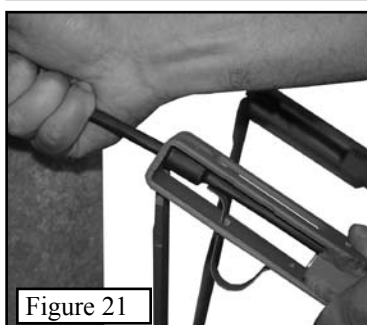

Figure 21
Step 3. Pull the cable towards the back of the tree and "seat" one of the cable stops against the back of the bracket, as shown in **Figure 21**. The QuickDraw cable spring will "lock" into place behind one of the cable stops.